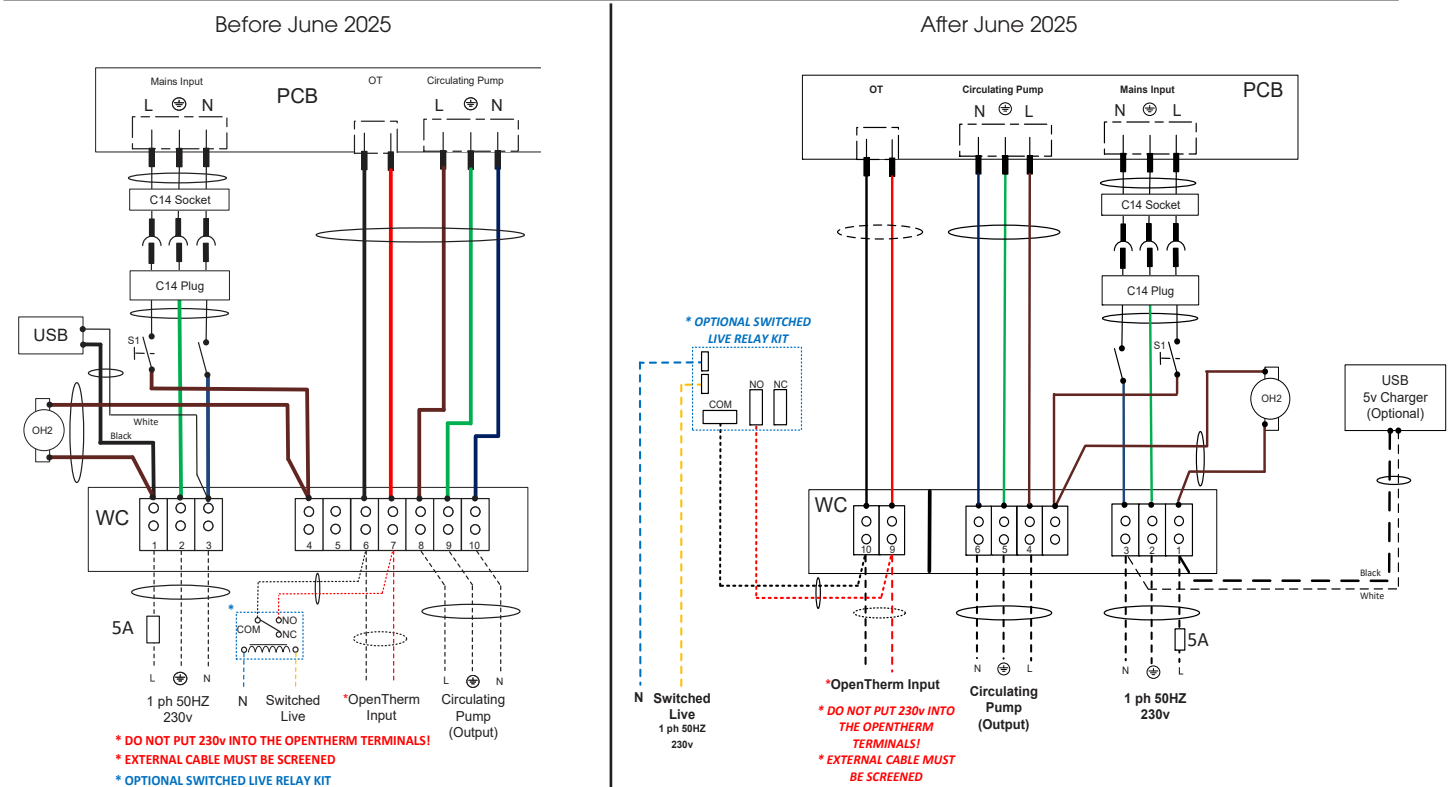

Fig 37
4. Wire as per Fig 37
On the EOGB Sapphire boiler, an external modulating circulation pump will need to be wired into the EOGB Sapphire wiring centre on terminals 8, 9 and 10 (See Fig 37)